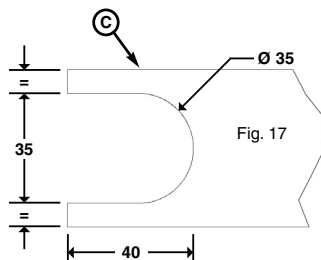

Fig. 17
- Work the lower crosspiece **C** according to the scheme indicated by the side of the strickle arm (Fig. 17).